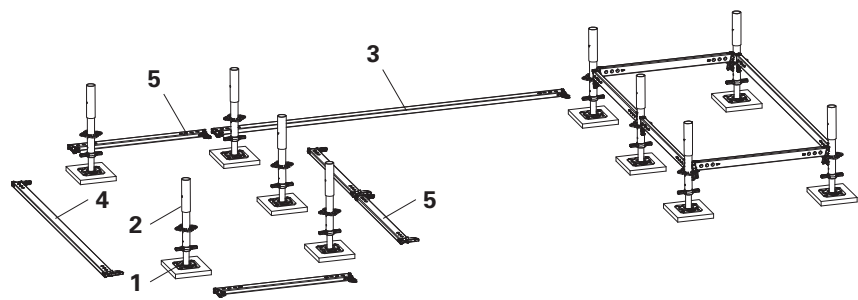
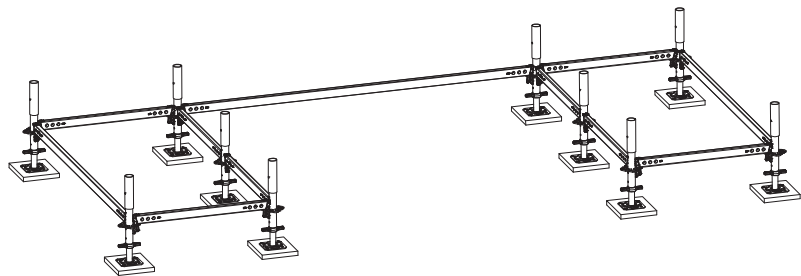

Fig. A1.03
Fig. A1.04
5. Connect the base standards to the horizontal ledgers. Do not hammer the wedges in yet. (Fig. A1.03, Fig. A1.04)